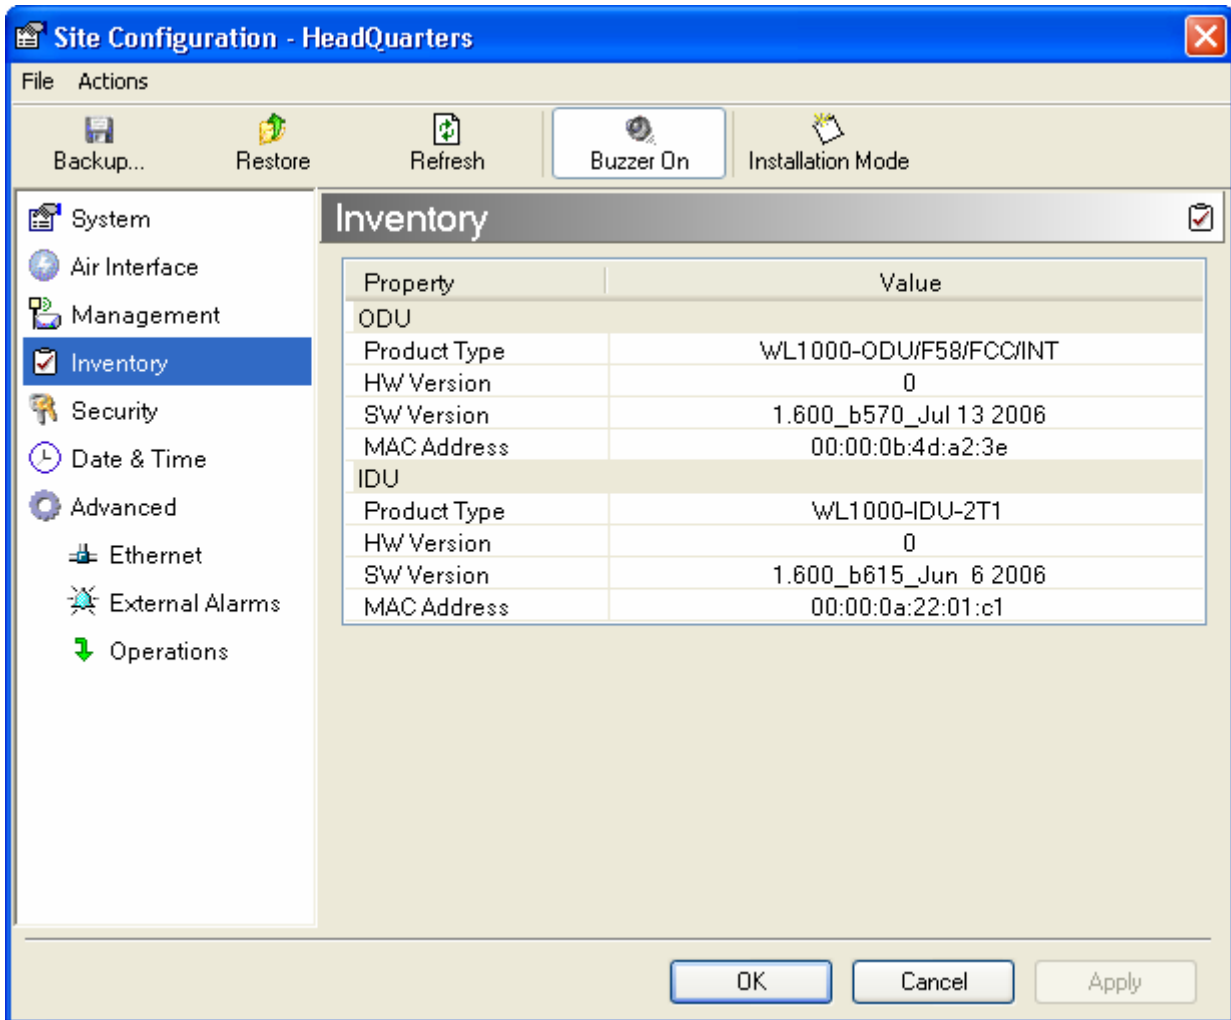

Figure 4-21. Inventory Screen
3. Select Inventory (*Figure 4-21*).